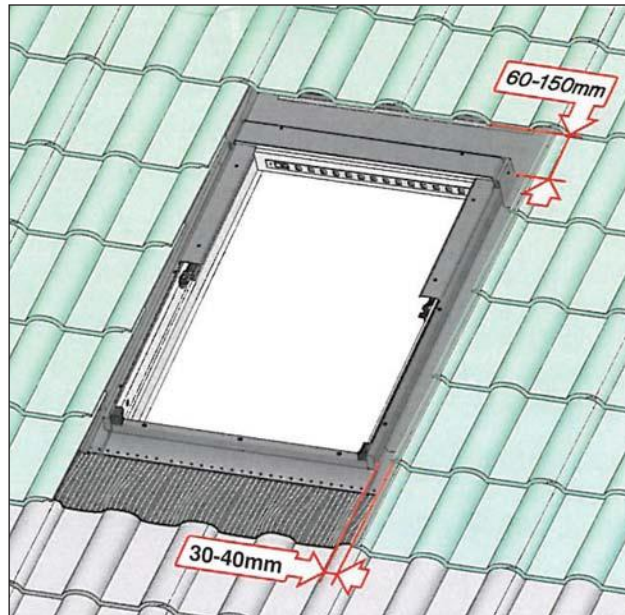

Fig 23
- 27) Proceed to place and cut tiles around flashings (Fig 23).